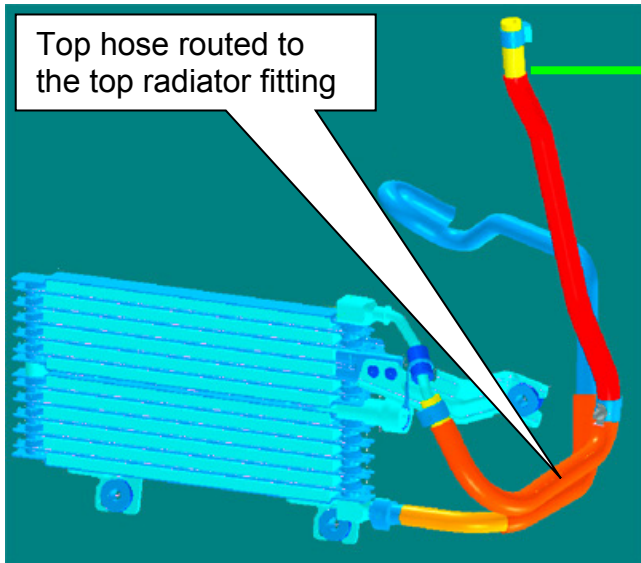
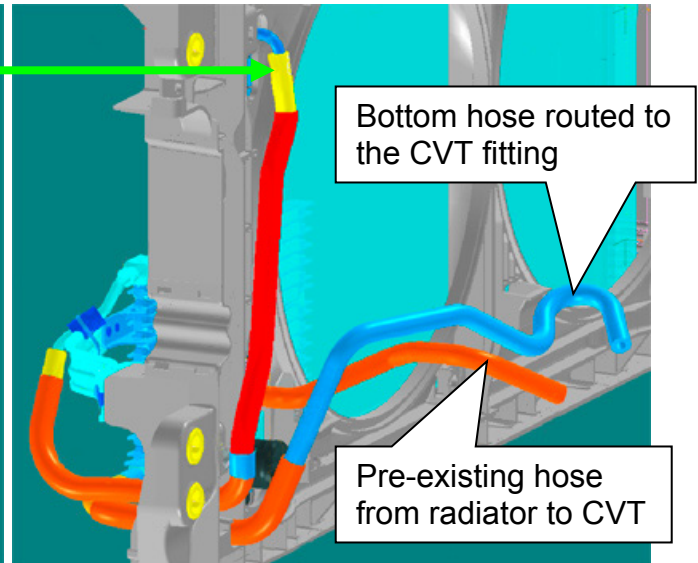

Figure 8
Figure 9
- See Figure 8 and Figure 9 on page 6 for correct hose routing.
Figure 8 and Figure 9 show hose routing from the COOLER ASSY-AUTO TRANS (external CVT cooler) to the radiator and the CVT.